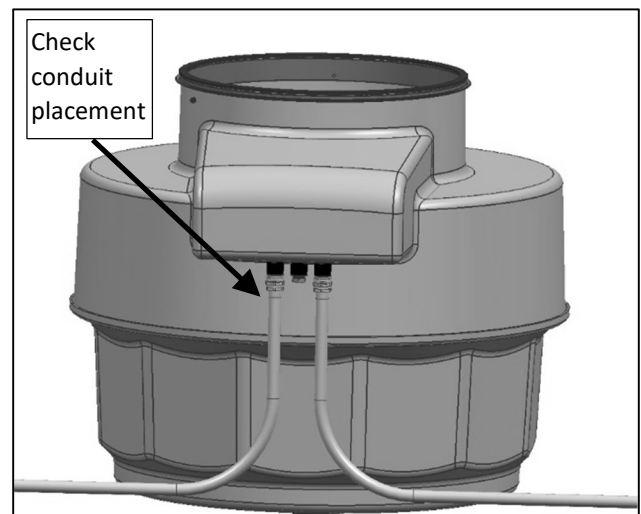

Figure 12 – FCS Series Only
**For FCS series sumps with Kwik Wire junction box from this point forward it is imperative that the electrical contractor be present or consulted to ensure conduit placement is coordinated. The Kwik Wire junction box receives all conduit for each tank sump in a single location, located in the top hat. It is of the utmost importance that prior to installing the top hat the Kwik Wire junction box be positioned in a location where all conduit has been / will be laid. It is recommended to dry fit the top hat and ensure conduit can reach its intended location prior to pouring resin. See Figure 12.**